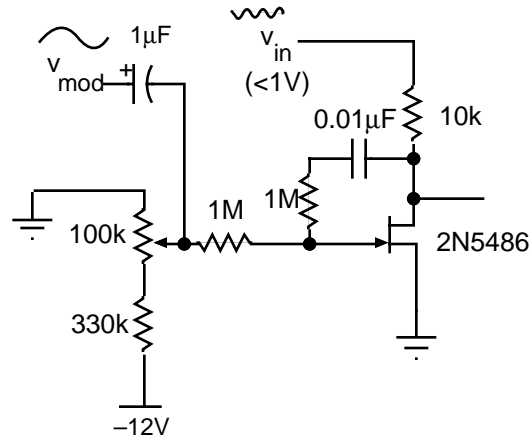

Fig. 7.5
c) **The World's Simplest AM Radio Transmitter:** Amplitude modulation can be produced with a slight modification shown in Fig 7.5. Use two function generators. One supplies the *carrier* frequency of around 1 MHz. The other can be set to sweep through an audible frequency range, e.g., 400-2000 Hz. This provides the variable *modulation* voltage. Attach a long wire antenna (a meter or two) to the output and you're on the air. Try to pick up the signal on a radio some distance away. For fun you might connect the earphone output from a tape player or a microphone to v_{mod} instead of the second signal generator.